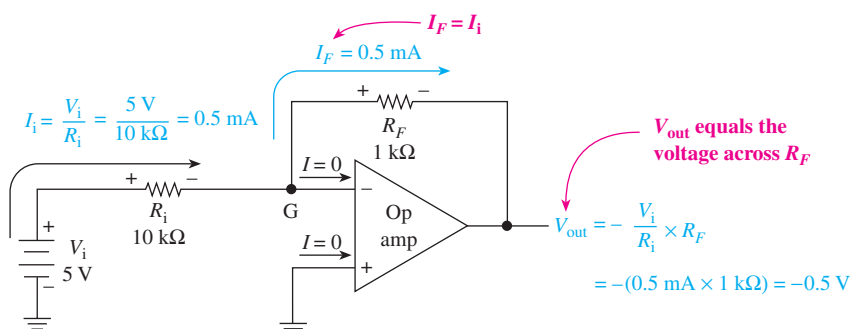

Figure 2 Basic op-amp operation.
Most A/D and D/A circuits require the use of an **op amp** for signal conditioning. Three characteristics of op amps make them an almost *ideal amplifier*: (1) very high input impedance, (2) very high voltage gain, and (3) very low output impedance. In this section, we gain a basic understanding of how an op amp works, and in future sections, we see how it is used in the conversion process. A basic op-amp circuit is shown in Figure 2.
The symbol for the op amp is the same as that for a comparator, but when it is connected as shown in Figure 2, it provides a much different function. The basic theory involved in the operation of the op-amp circuit in Figure 2 is as follows: